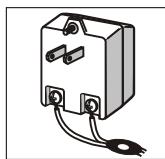
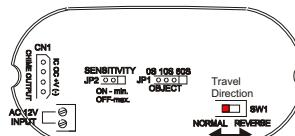

Fig. 4.5
Fig. 5
4.) Using the 6-ft power cord with in-line switch, connect the pre-stripped wires to the 12V AC 20VA transformer terminals (refer to Fig. 4.5). Strip the insulation on the opposite ends of the wires back approximately 1/4inch, and insert into sensor/transmitter terminals labeled 12V AC input (Refer to Fig. 5.).
- 5.) The travel direction switch must be properly placed depending on where the infrared sensor/transmitter is installed (refer to Fig 5 ).